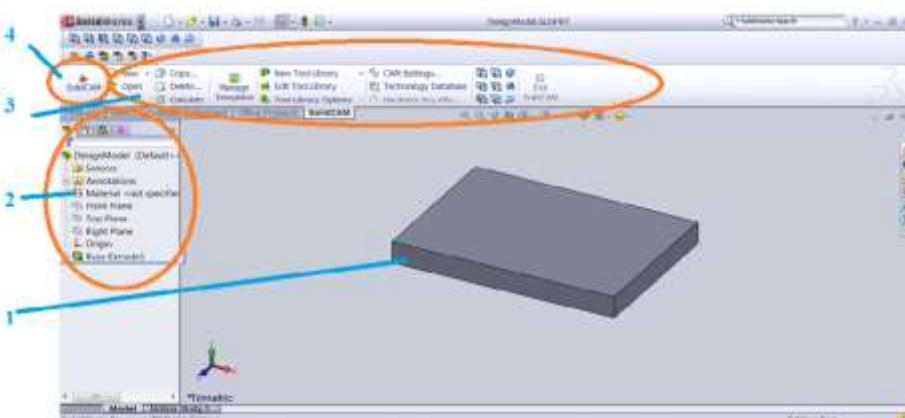

Fig.1. Interfață SolidWorks
**Drawing** – The 3D part or assembly is shown as a 2D model, using both ANSI (inch) and ISO (mm) standards. In figure 1, you can also see the user interface of